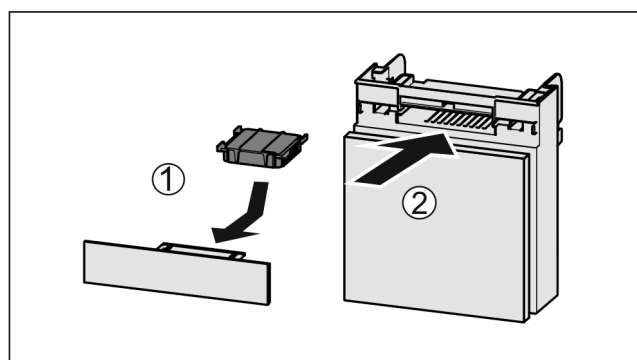

Fig. 166
- ▶ Insert the carbon filter as shown in the diagram Fig. 166 (1).
- ▶ Push the compartment in Fig. 166 (2).